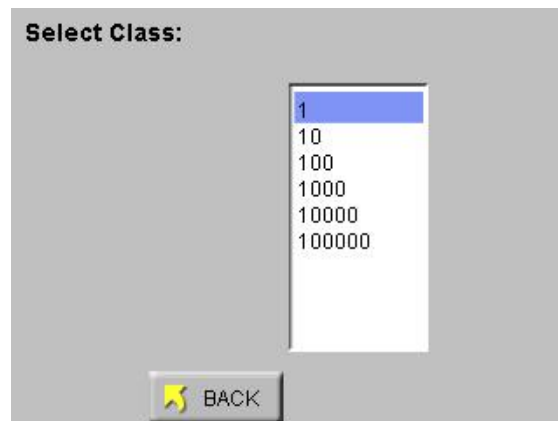

Figure 6-90 Select Class Level
- Press the CLASS button and the Select Class screen displays as shown in Figure 6-90.